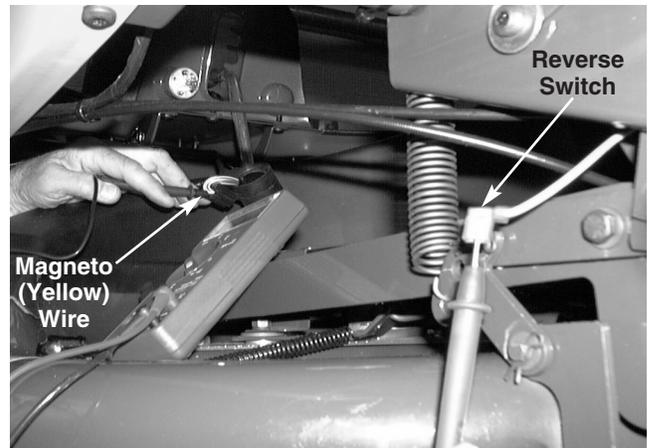

FIGURE 7.
-There will be **CONTINUITY**. See figure 7.